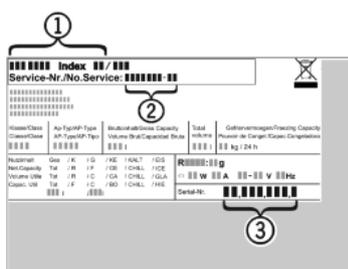

Fig. 20
- ▶ Read the appliance designation *Fig. 20 (1)*, service No. *Fig. 20 (2)* and serial No. *Fig. 20 (3)* off the model plate located inside the appliance on the left-hand side.
- ▶ Notify the customer service, specifying the fault, appliance designation *Fig. 20 (1)*, service No. *Fig. 20 (2)* and serial No. *Fig. 20 (3)*.